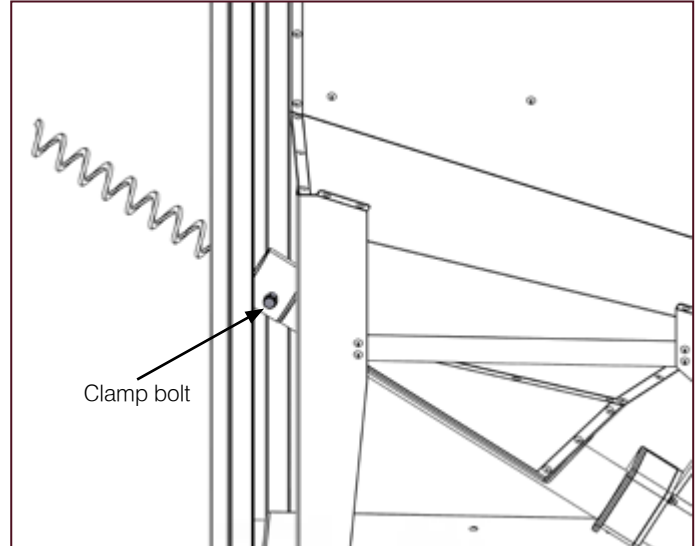

Figure 10-8: Location of auger pipe clamp bolt
5. Slacken the clamp bolt on the auger pipe socket so that the auger extension pipe can be fitted. Refer to Figure 10-8 for location of auger pipe clamp bolt.